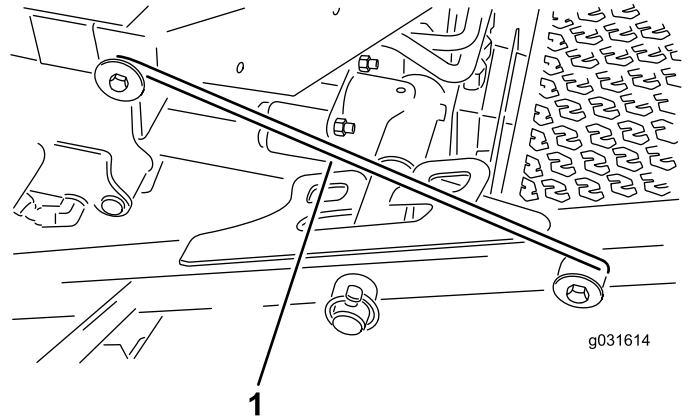

Figure 32
4. Release the latch rod from the front carrier-frame retainer (Figure 32).
5. Lift the outside of the front cutting decks and place the latch over the frame pin mounted on the front of the operator's platform (Figure 32).